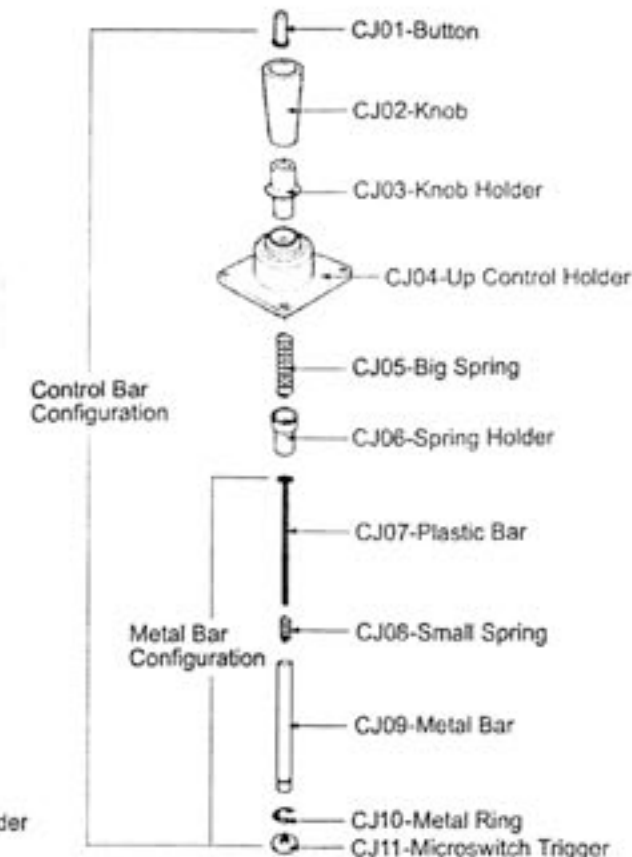

Figure 2
- 2) Ordinarily, insert those components into the Metal Bar(CJ09); **Show as Figure 2**